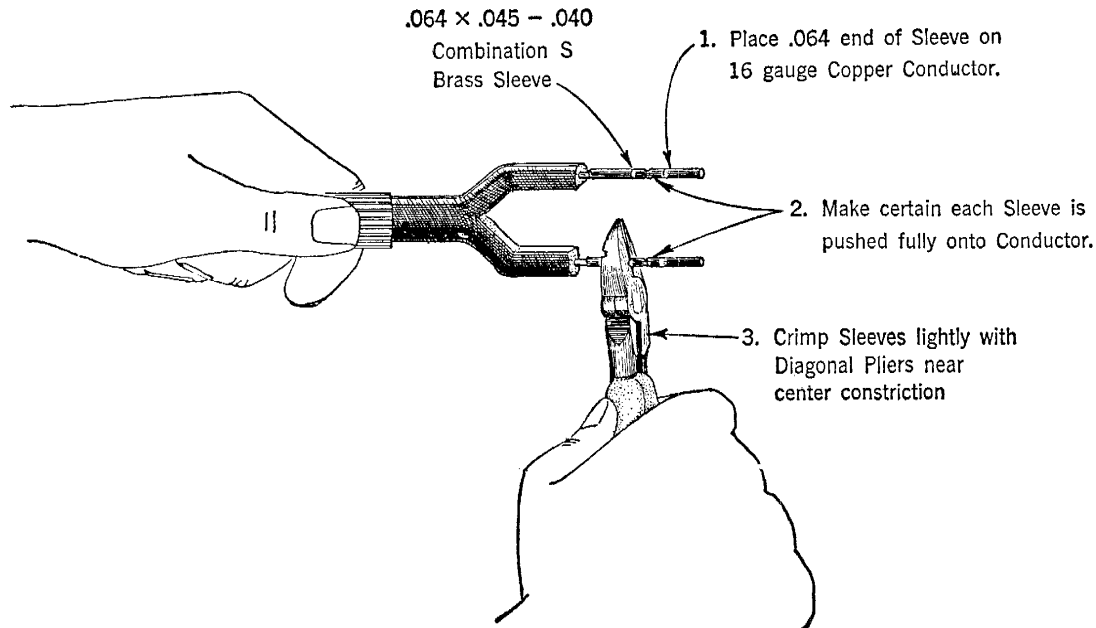

Fig. 2
**3.01** Place the 064 end of an  $064 \times 045 - 040$  Combination S Brass Sleeve on the 16-gauge copper conductors of B or C Underground Wire or the 154A Coil Case as shown in Fig. 2.